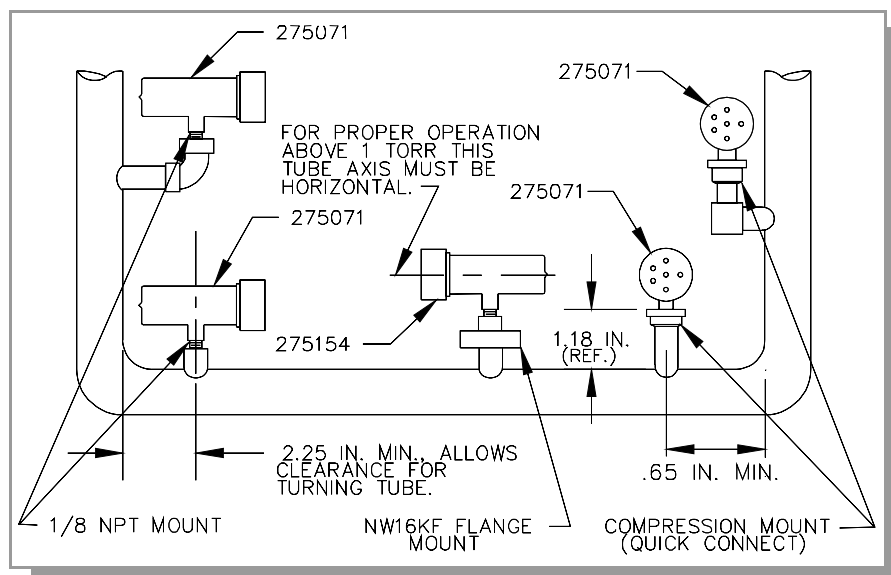

Figure 3-2 Convectron Gauge Installation.
- Mounting clearance dimensions are shown in Figure 3-2.